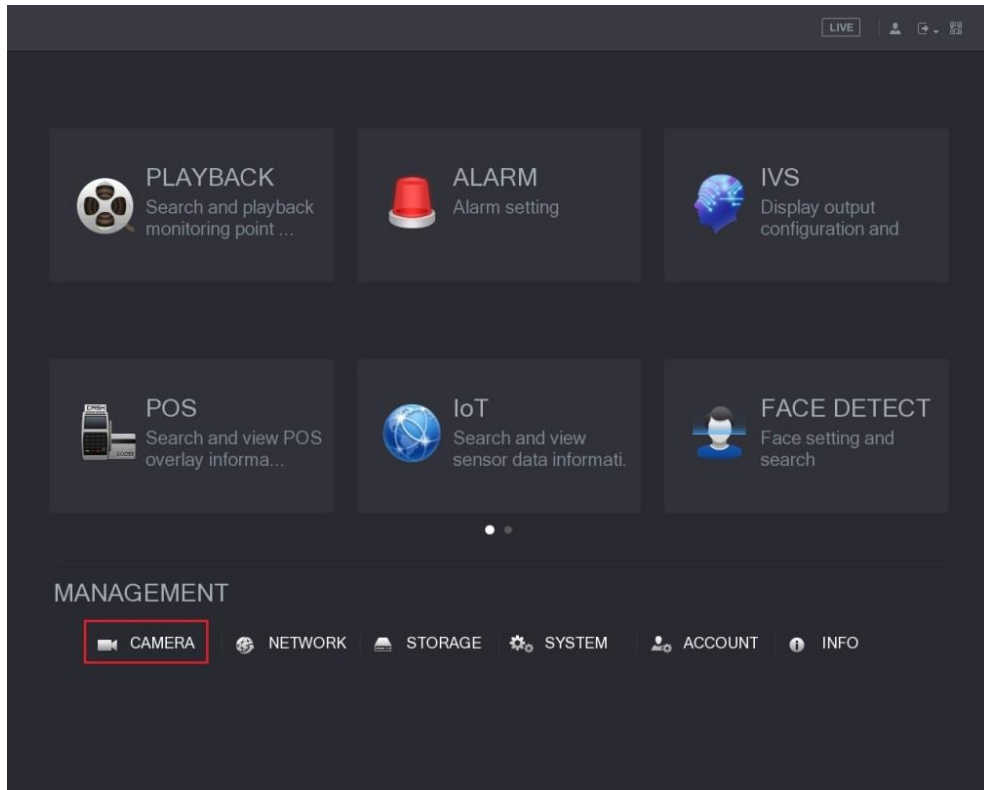
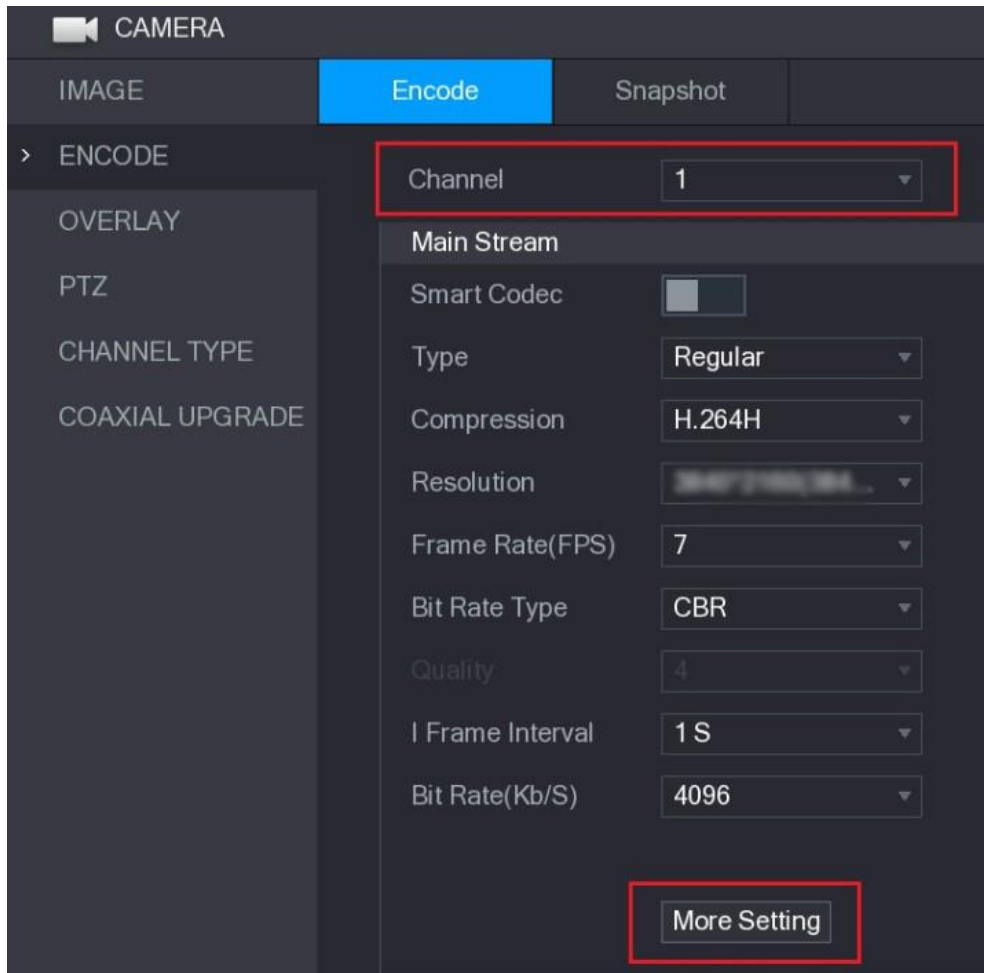

Figure 4-2
Figure 4-3
The **Main Menu** interface is displayed. See Figure 4-2.
Step 1 In the **Main Menu** interface (Figure 4-2), select **CAMERA > ENCODE > Encode**. The Encode setting interface is displayed. See Figure 4-3.
Step 6 In the Encode setting interface (Figure 4-3), click **Apply**.